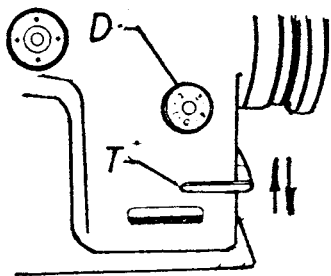

FIG. 11
The stitch length is regulated by turning dial (D) at the front of the machine (Fig. 11). When number "0" on dial appears uppermost, the